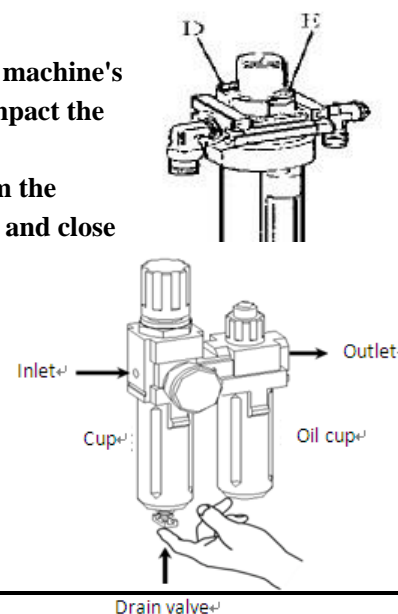

Fig 19-1
- As shown in Figure 19-1, when you found there are some water in the cup, push up the drain valve to drain away water with your fingers; loosen your fingers after drained water, drain valve can be automatic closed under the action of the spring.